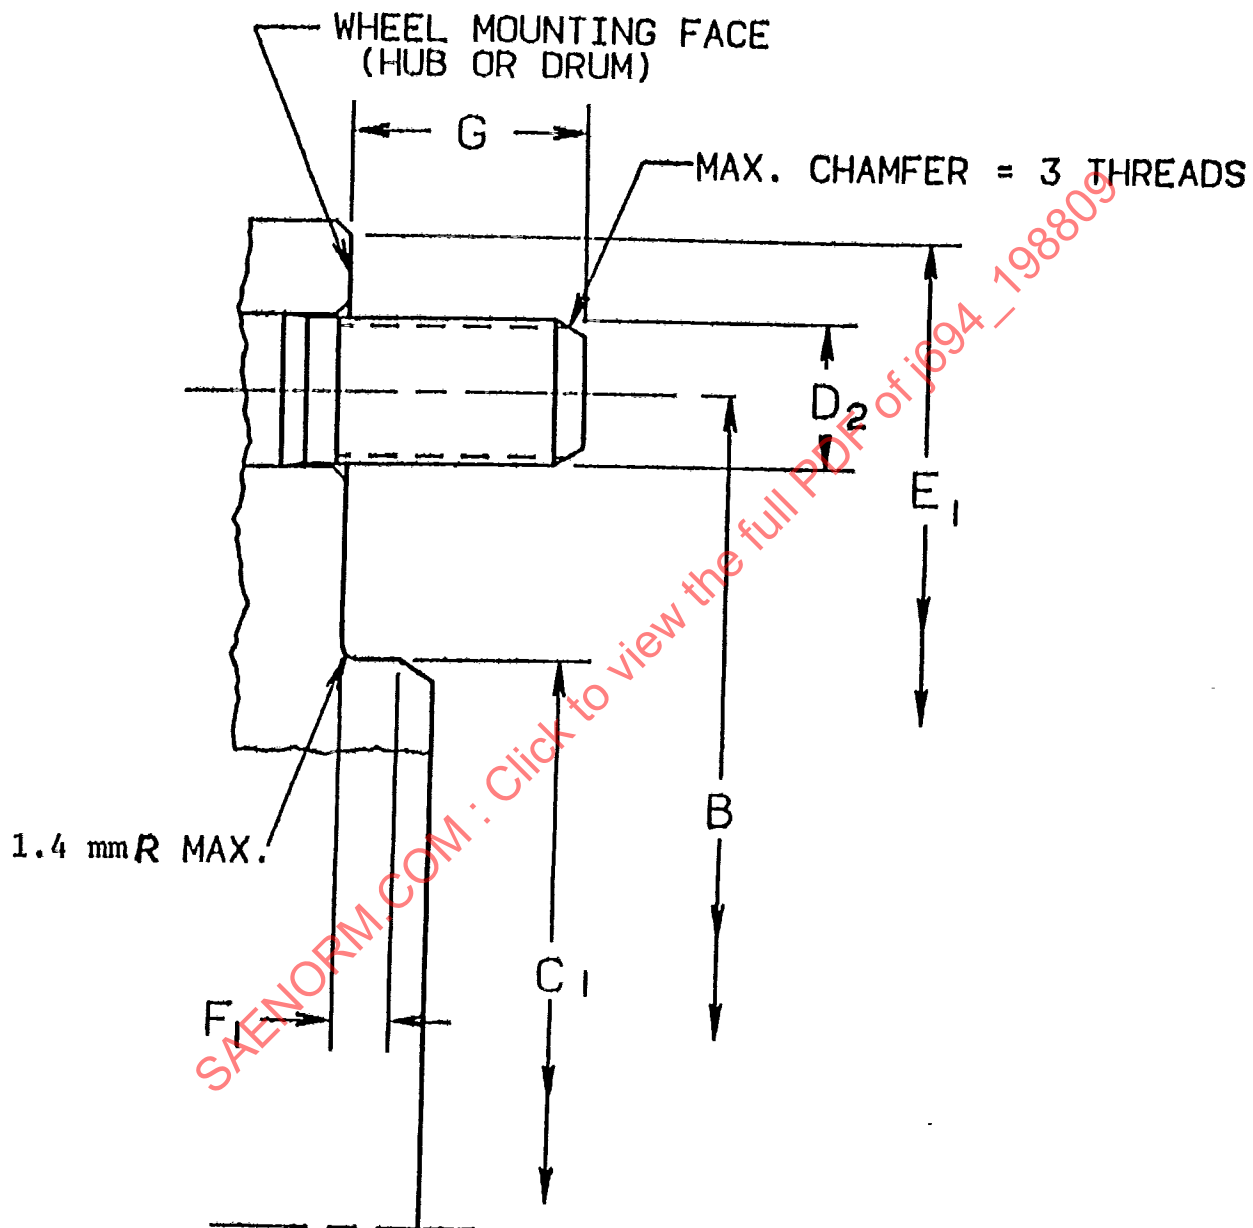

FIGURE 3 - Hub or Drum Interface Dimensions
5.2.1 Definitions of Hub or Drum Interface Dimensions (Ref. Fig. 3):